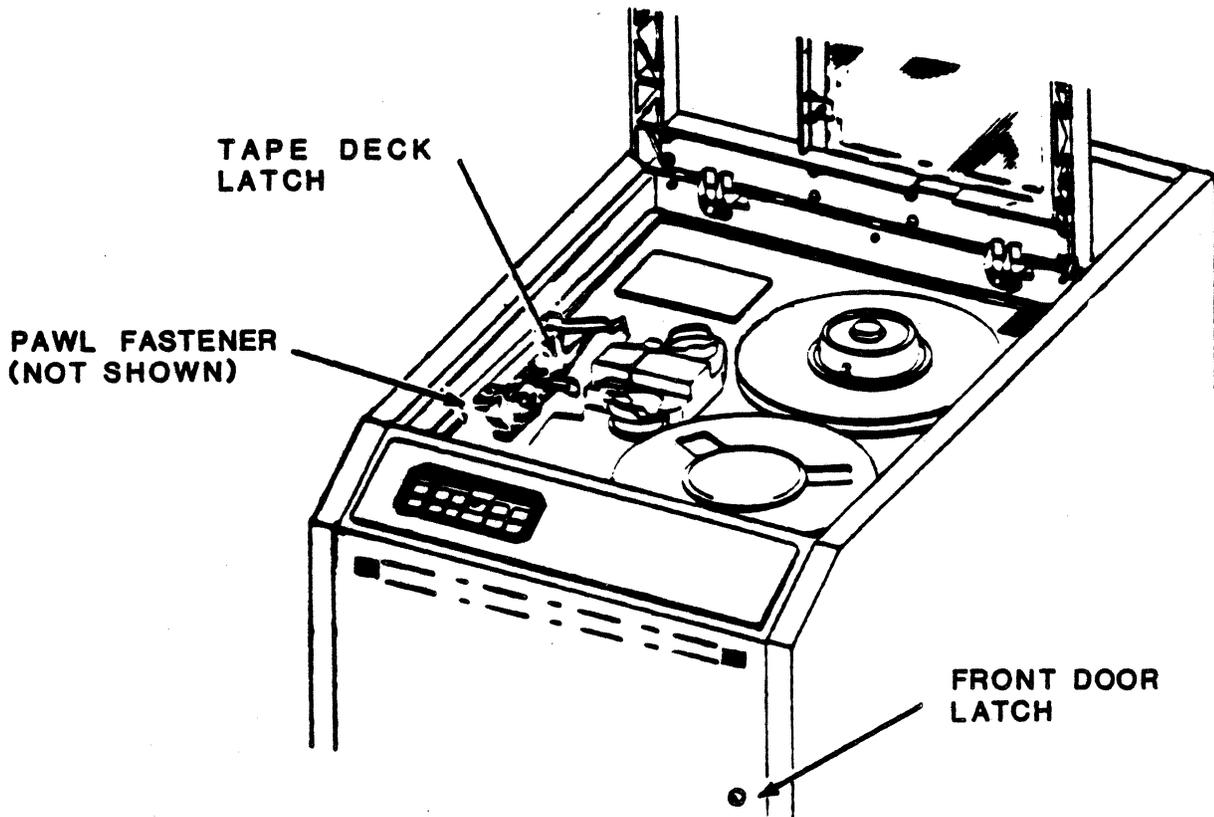

Figure 3-17. Tape Deck Access
12. Open the front dust cover door latch with a 1/8 inch hex wrench. See figure 3-17.